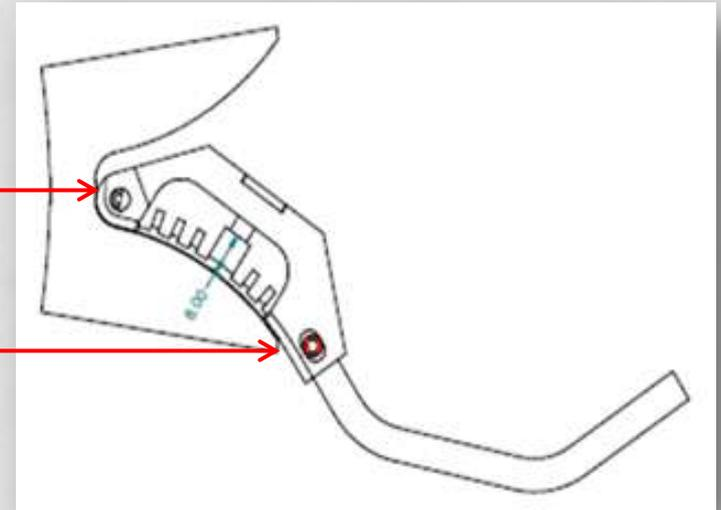

FIGURE 3: Coverage of the flexible probe
- Selection of the proper probe is critical. The probe should fit the geometry of gear teeth. For pinions, a flexible probe is required because of the various helix angles of the teeth. (Figure 3)